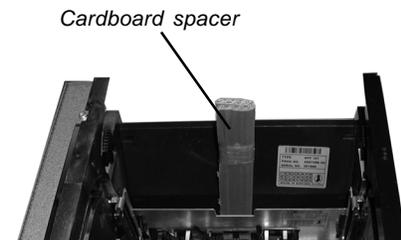

Figure 3. BCU Cover removed and cardboard spacer visible.
5. Open the BCU cover. Note the cardboard spacer, as shown in Figure 3. Remove the spacer.